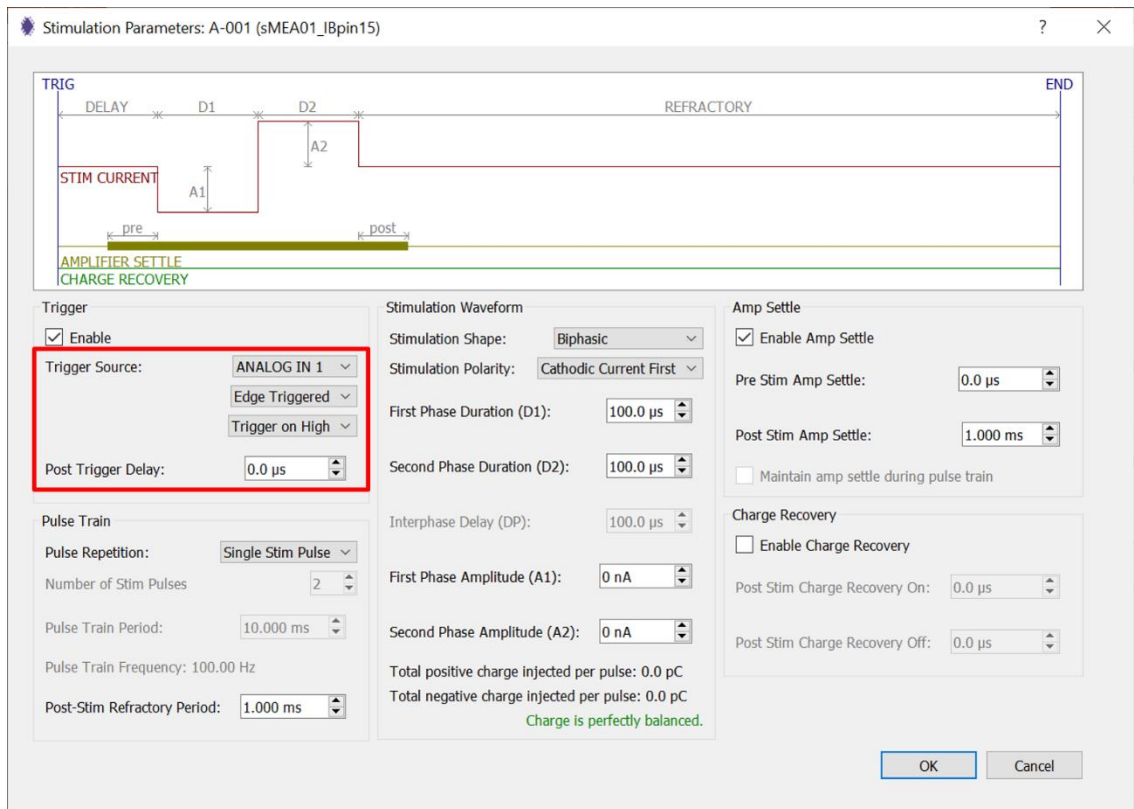

Fig. 71: Stimulation Parameter window with the trigger options highlighted.
- 4) The "Trigger" panel allows the user to set trigger parameters (red box in **Fig. 71**).